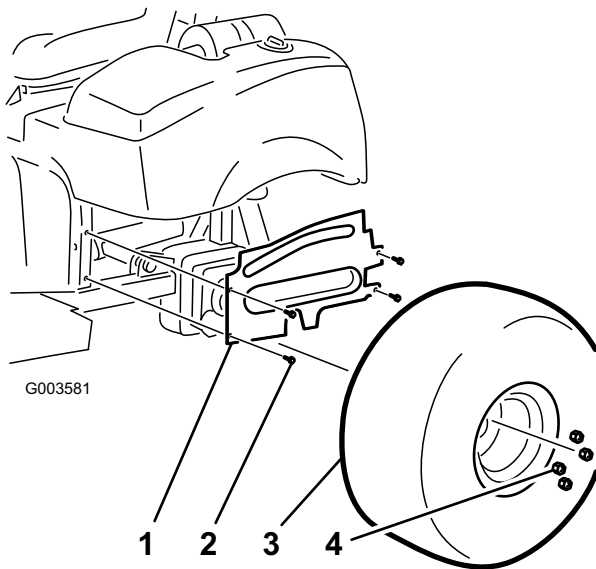

Figure 1
3. Remove the flange-head screws securing the left-hand wheel shroud to the frame (Figure 1). Remove and retain the shroud.